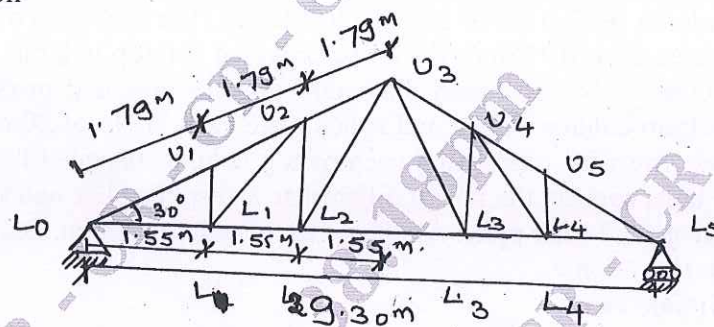

Fig Q3
- 3 Design the top Chord member, bottom Chord member and Inner Chord member. Forces in the members under service load condition are presented in Table Q3 and in Fig Q3. Use class 4.6 bolts or diameter 16mm. Draw to suitable scale the following: